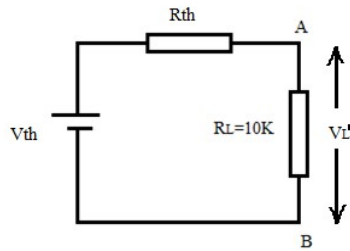

Figure 7
7. The circuit is reconnected and replaced by a single voltage source V_{th} and an equivalent resistance R_{th} in series with the Load R_L . Figure 7.